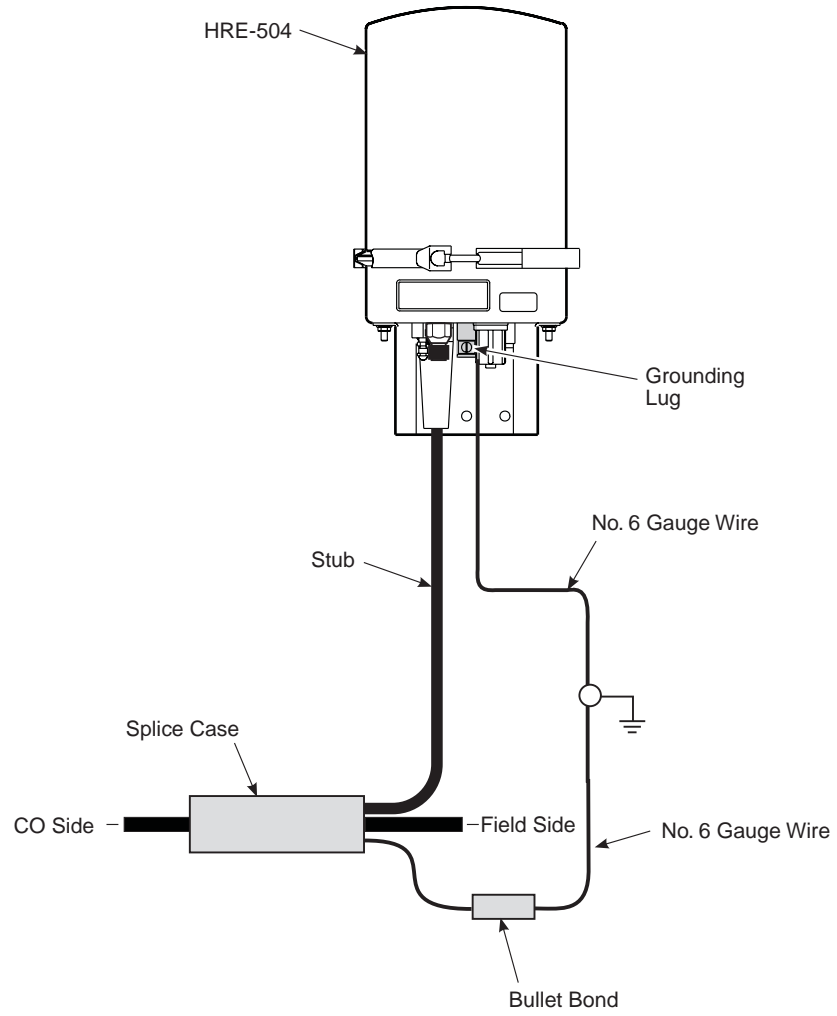

Figure 6. *Grounding for Flat Surface Mounted Unit*
- 1 Bond the main cable shield through the splice case using bullet bond, as shown in Figure 6 on page 15.